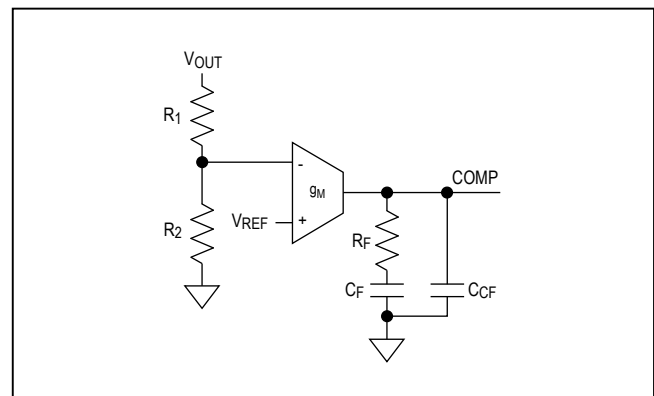

Figure 6. Type II Compensation Network
**Procedure 1 (See Figure 6)**